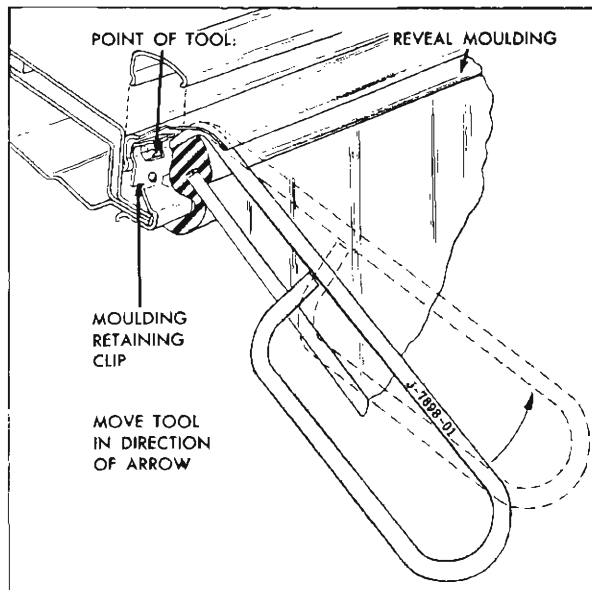

Fig. 2-5 Reveal Molding Removing Tool
6. On all styles except "B"—47 and all "67" styles tool J-7898-01 may be used to remove the side and upper reveal moldings. When using reveal molding removing tool (J-7898-01) carefully lift up edge of molding sufficiently to engage point of tool between molding and molding clip as indicated in illustration. To disengage prongs of clip from molding, lift molding free of clip. Repeat this operation at each molding clip (Fig. 2-5).
8. On all styles except "67" styles, carefully remove the upper reveal molding with tool J-7898-01 (Fig. 2-5) or flat-bladed tool as required. On "67" styles remove screws at outer ends of molding; then, remove upper garnish molding to gain access to stud nuts. Remove nuts and moldings.